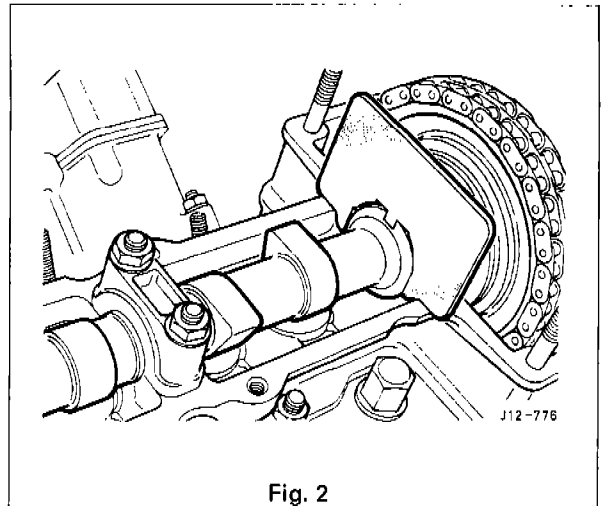

Fig. 2
- Check that the other camshaft is still at TDC using Service Tool C 3933 (Fig. 2).
- Remove the rubber grommet from the right-hand front of the timing cover, insert Service Tool JD 50 (1 Fig. 2), and release the locking catch on the timing chain tensioner.
- Fit Service Tool JD 50 (Chain Tension Retainer) (2 Fig. 2) to the right-hand camshaft, and retract the timing chain tensioner until the locking catch is engaged.
- Release the chain tension by fitting Service Tool JD 50 (chain tension retainer) (2 Fig. 2), raising the timing chain tensioner slightly, and then inserting Service Tool JD 50 (Release Tool) (1 Fig. 2) through the timing cover and releasing the locking catch which allows the tensioner to expand.